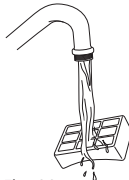

Fig. 22
- 4 Wash the filter under the tap using lukewarm water with the dirty side face down until the water runs clear. (Fig. 22)